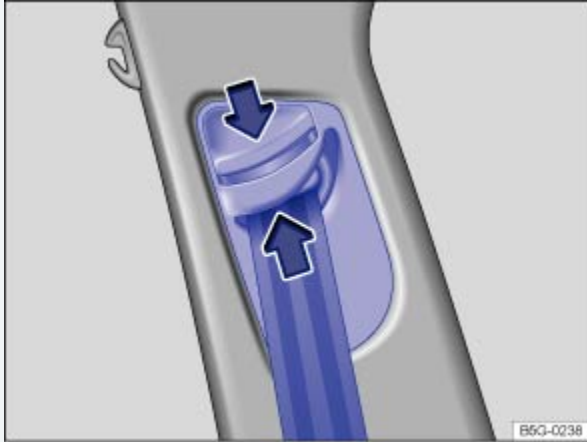

Fig. 66 Next to the front seats: Safety belt height adjuster.
- Pinch the safety belt attachment together as indicated by the arrows and hold ⇒ Fig. 66.